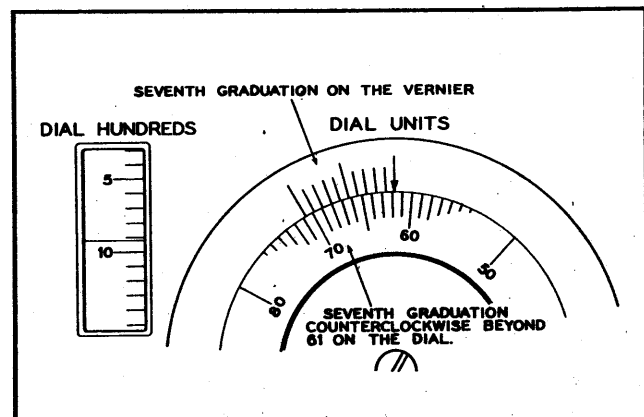

Figure 6-1. Main Tuning Dial Scale
c. A vernier (see fig. 6-1) is provided to subdivide each division accurately on the "DIAL UNITS" control. To read the vernier, observe which graduation on the vernier scale aligns with a graduation on the "DIAL UNITS" control. Start with the arrow as zero, count over to this graduation. The resulting number expresses in tenths, the fraction of a "DIAL UNITS" division.
d. For example, observe the dial setting in figure 6-1. The setting is as follows: